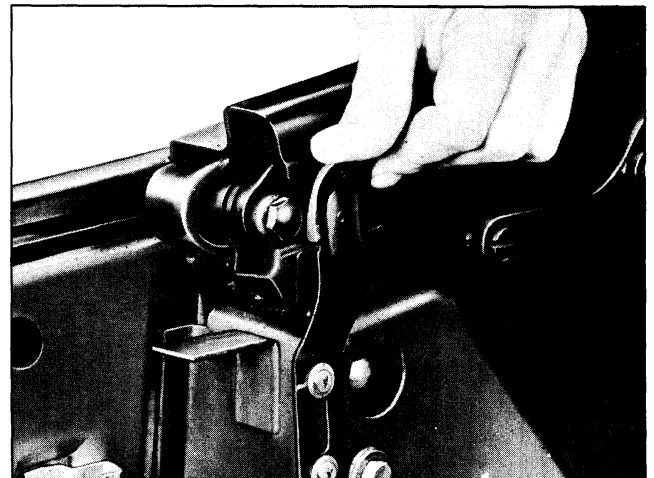

Fig. 22-16 Disengaging Top Assembly
A. At each side of car, move upper end of catch clip inboard to disengage top assembly (Fig. 22-16).